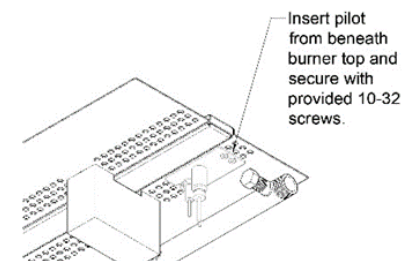

FIGURE 49
- 11) Insert the pilot assembly from underneath the existing burner pan to the area of the removed burner section. **(Figure 49)**